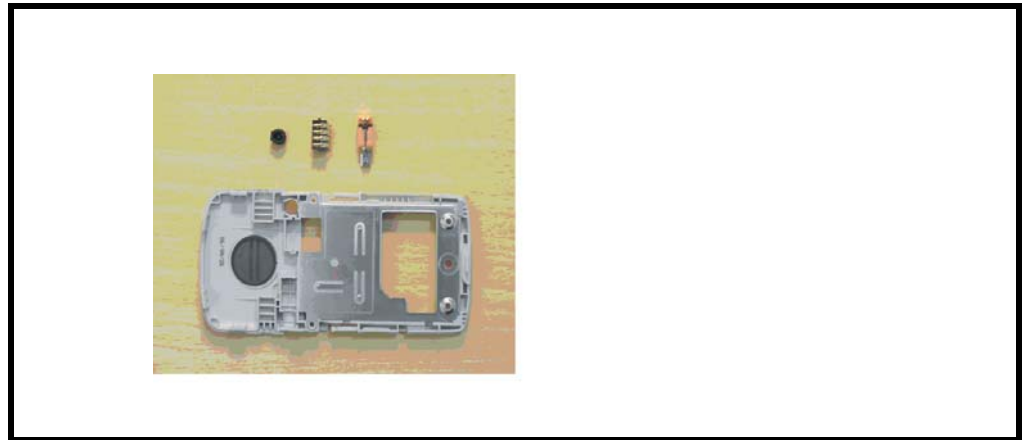

Figure 21. Removing Vibrator and battery connector
2. Remove RF Cap, Vibrator, and Battery Connector from Housing D as shown in Figure 21.